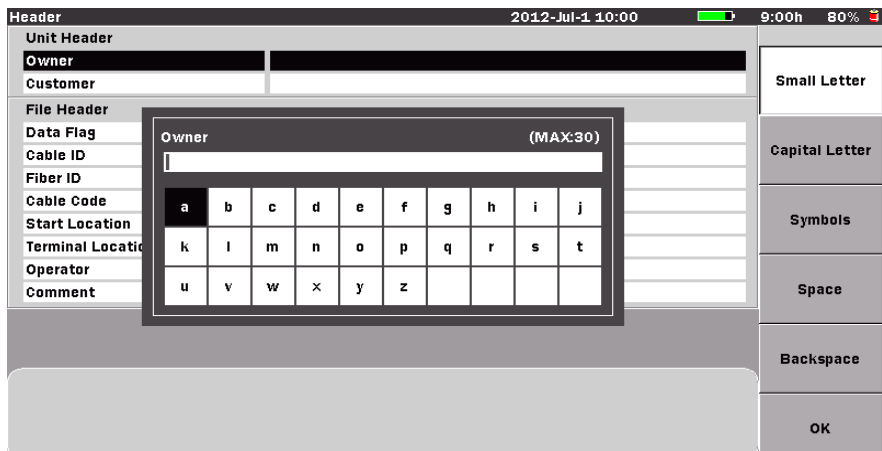

Figure 4-41: Text Entry dialog box
- Use the **Up** and **Down Arrow keys** (or the **Rotary knob**) to highlight the desired field and then press the **Enter key**. The Text Entry dialog box appears (see Figure 4-41). If no USB keyboard is connected, follow the instructions from step 5. to enter the name using the front panel keys.